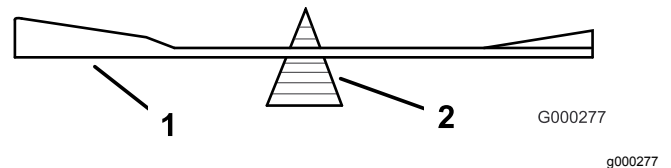

Figure 53
2. Check the balance of the blade by putting it on a blade balancer (Figure 53).
Note: If the blade stays in a horizontal position, the blade is balanced and can be used. If the blade is not balanced, file some metal off the end of the sail area only (Figure 53). Repeat this procedure until the blade is balanced.